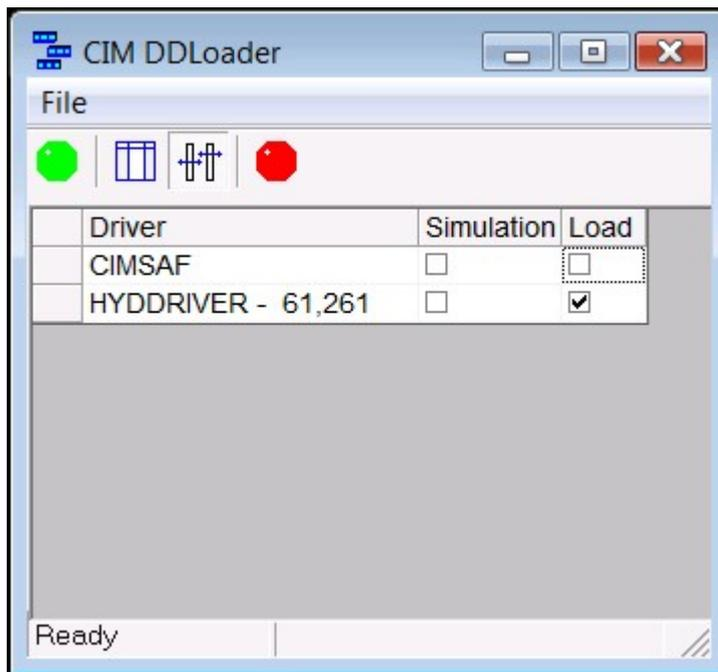

Figure 9-36: CIM DDLoader
- Select the **Loader** icon of the workstation where the hydraulic device driver is installed. The CIM DDLoader window is displayed, as shown in Figure 9-36: CIM DDLoader.